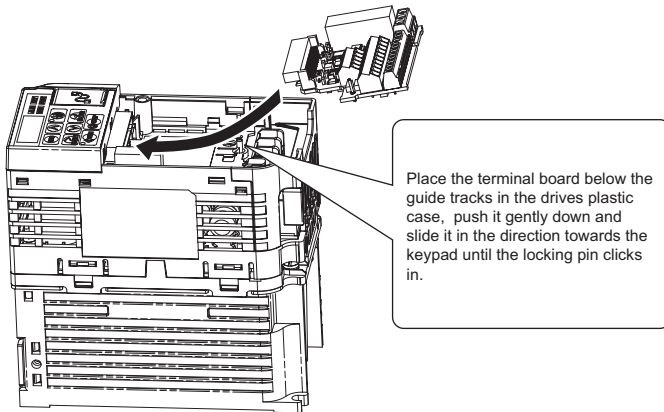

Figure 6.9 Terminal Board Replacement
1. Replace the removable terminal block on the drive according to Figure 6.9